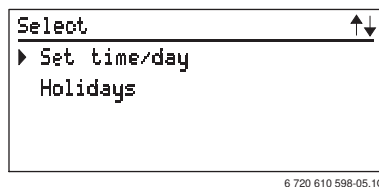

Fig. 36 Submenu: Set time/day
- ▶ Press the  button to confirm the setting and return to the previous menu (Fig. 36 page 27).